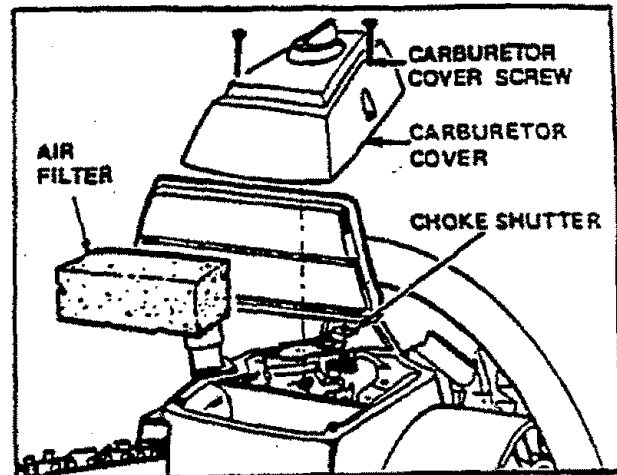
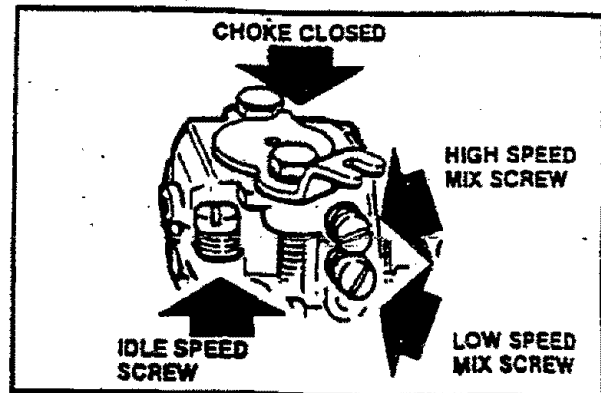

Figure 36
Figure 43
- Remove the carburetor cover screws and carburetor cover. Figure 36.
- Check the choke shutter to be sure it is closed. Figures 36 & 43.
- d. Remove the carburetor cover screws and carburetor cover (Figure 36) and locate the three (3) carburetor adjusting screws. Figure 43.